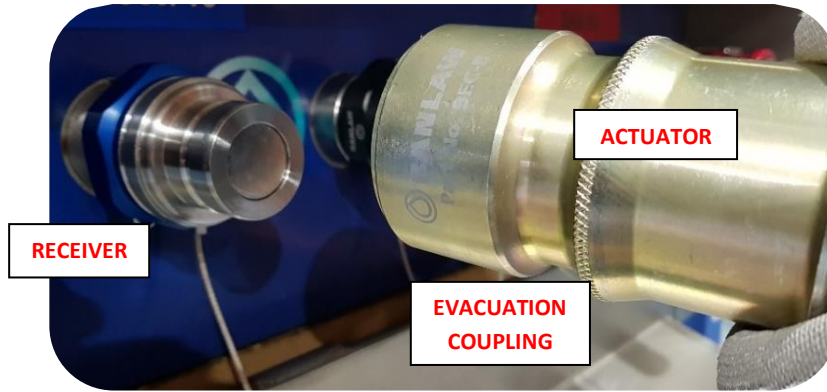

Figure 8 - Preparing for Connection
5. Align the front of the Evacuation Coupling with the Receiver – refer Figure 8.